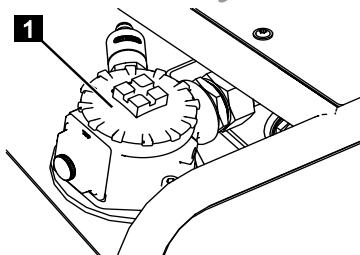

Fig. 249
6. Screw the hydraulic filter's cap back on again (Fig.249/1).